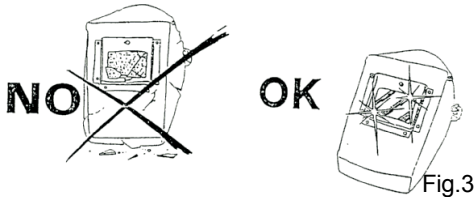

Fig.3
- Glass screens must always be kept clean, and immediately replaced if they are broken or cracked (Fig.3). It is good practice to install a pane of transparent glass on top of the adiacinic glass, between it and the welding area to protect it from molten and hard parts and arc rays. This pane can be frequently replaced when incandescent spatters and deposits greatly reduce visibility.